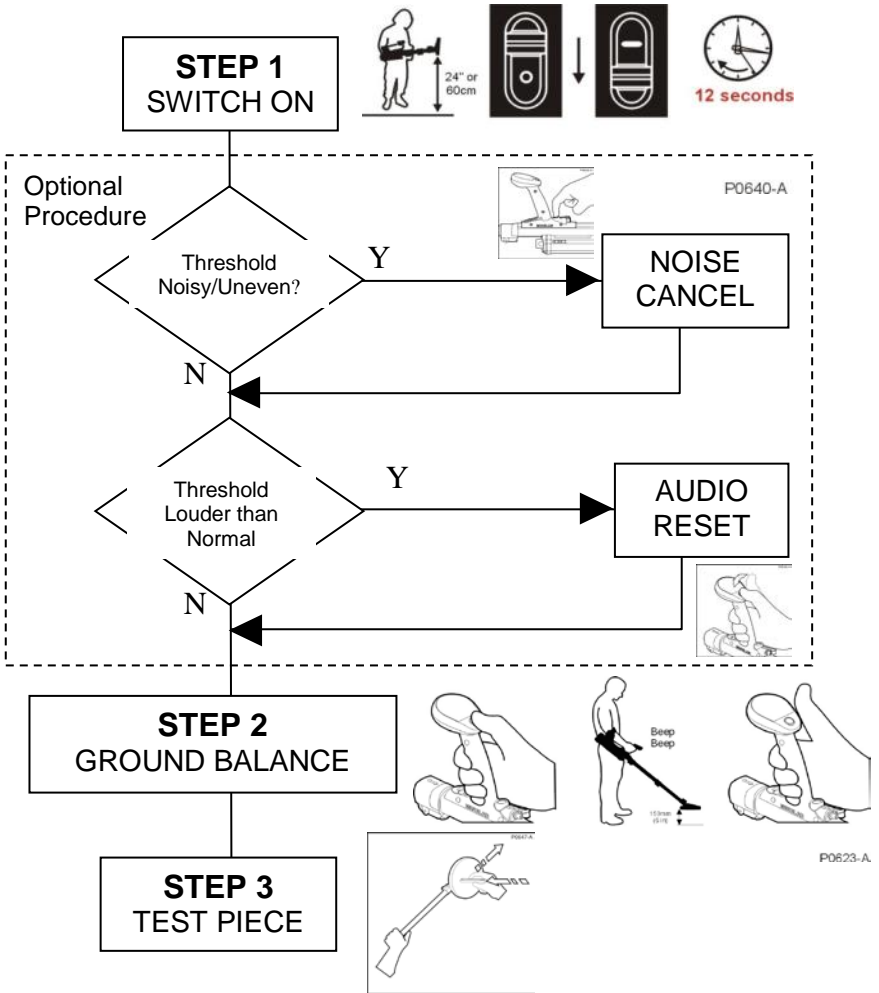

Figure 23: Standard & Optional Procedure
*Once Noise Cancel or Audio Reset is complete, continue with steps 2 and 3. Figure 23 illustrates this sequence. Once completed, the F3 can commence operations in compliance with local Standard Operating Procedures.*